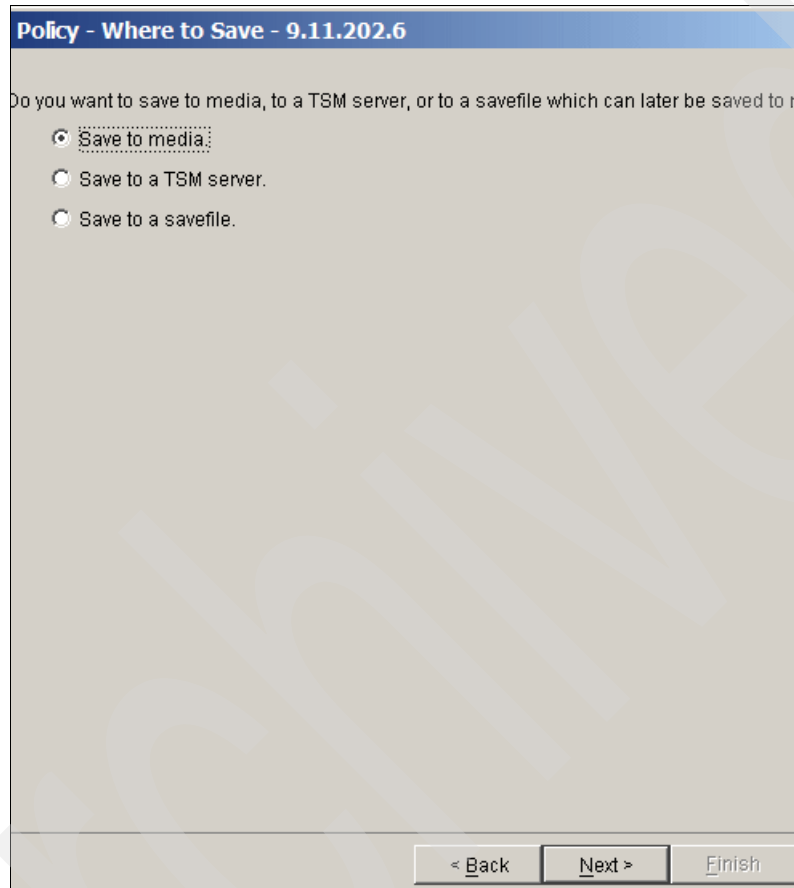

Figure 6-22 New Backup policy wizard - where to save
11. Next you are prompted to specify where to save the newly created backup policy: to media, to the Tivoli Storage Manager server, or to i5/OS savefile. In this example we save to data cartridge, so we select **Media**, as shown in Figure 6-22. After selecting where to save, click **Next**.